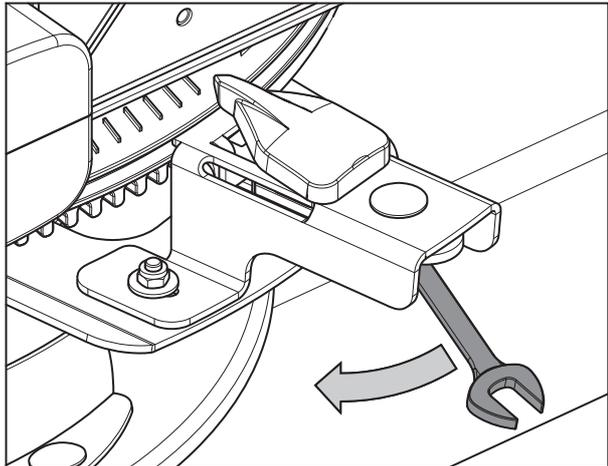

Figure 9.34: Release lock
- ▷ The lock is released and the display element can be moved freely (see Figure 9.34).